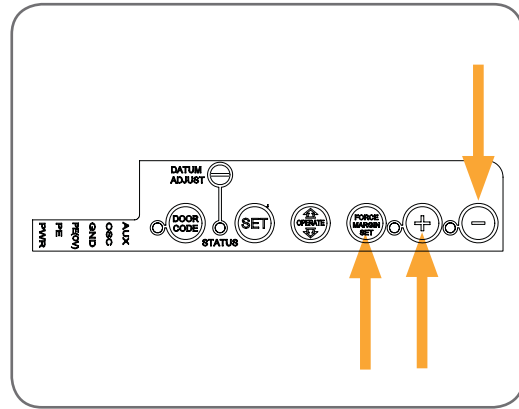

fig 22
- Hold down **FORCE MARGIN SET** (**Fig. 22**)